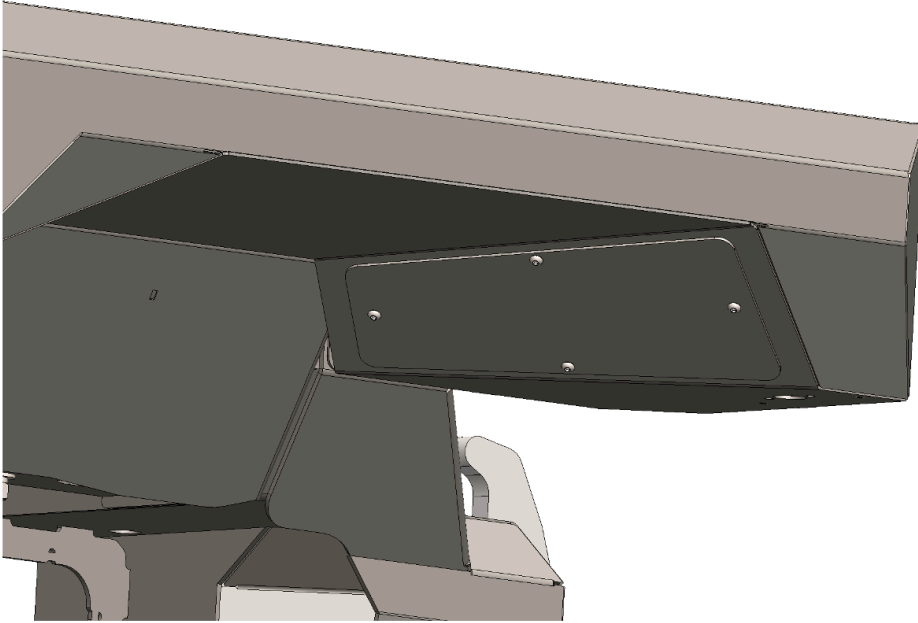

Figure 17.
18. Install the fender cover plate using four (4) of the provided M6 button head bolts. Figure 17.